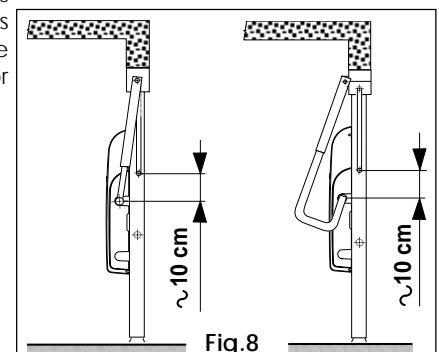

Fig. 8
- **single section outward swinging garage door (Fig. 8)**